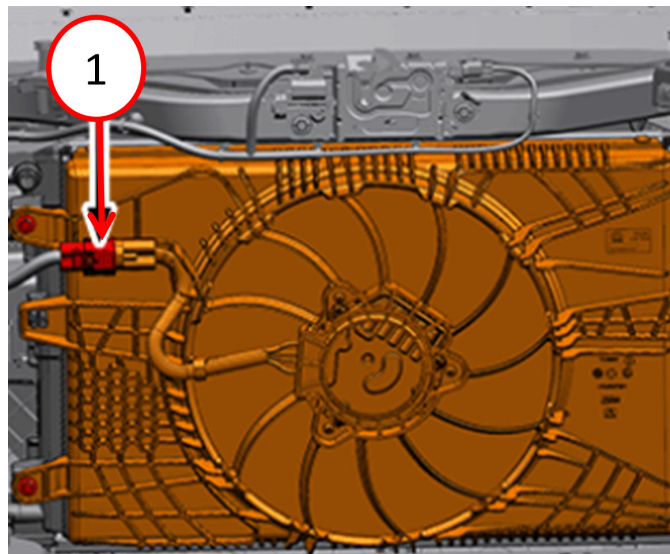

Fig. 1
4. Disconnect the cooling fan wire harness connector Fig. 1.
20. Connect the cooling fan wire harness connector Fig. 1.